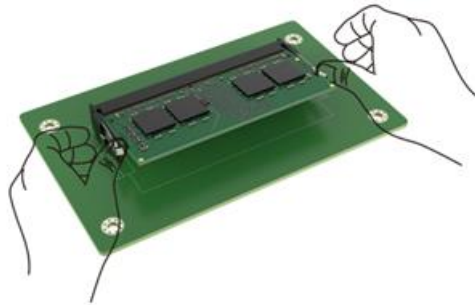

Figure 3-2: Open the handles of the Memory Slot
Step 1: Open the two handles of the memory slot (**See Figure 3-2**).